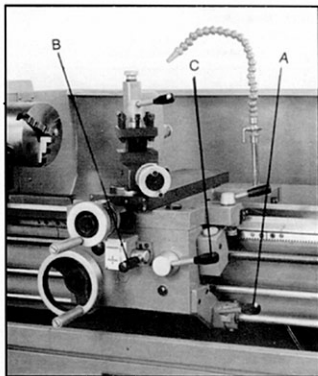

Fig. 18
1. Move the forward/reverse selector (A, Fig. 18) up or down depending on desired direction.
1. Push lever (B, Fig. 18) to the left and down to engage crossfeed. Pull lever to the right and up to engage longitudinal feed.
3. Engage the half nut lever (C, Fig. 18).